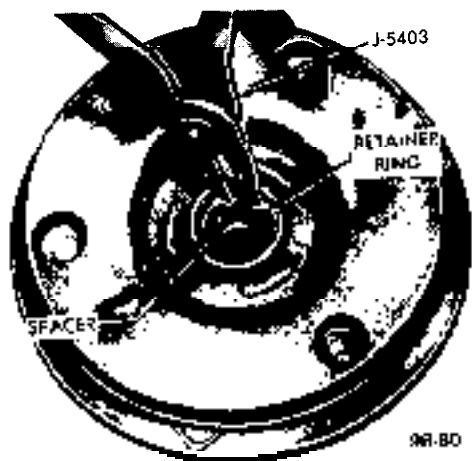

Figure 9B-106 Removing or Installing Retainer Ring in Clutch Drive Plate
5. If compressor has an absorbent sleeve in the neck, pry out the sleeve retainer and remove the sleeve. Remove the seal seat retainer ring, using No. 21 Truarc pliers, Tool J-5403, (see Figure 9B-107).